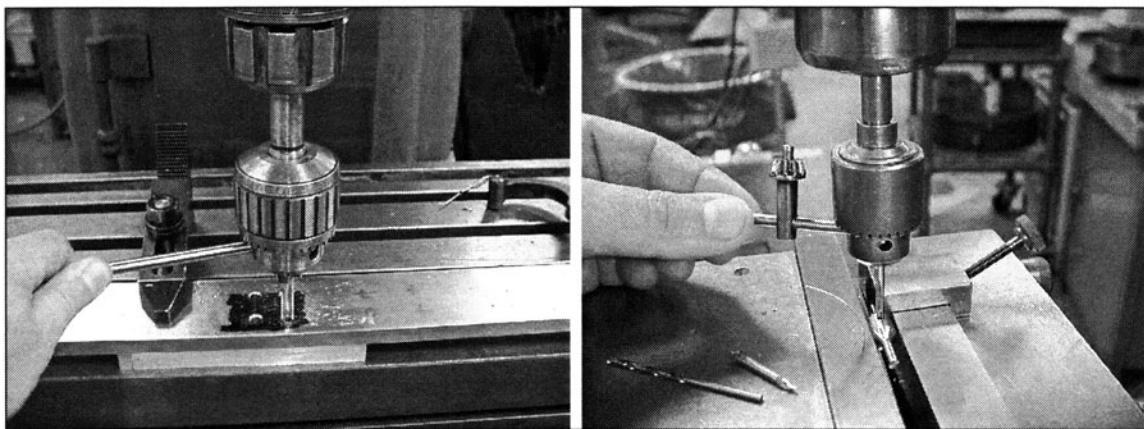

FIGURE 8-7 Holes can be hand tapped by loosening the spindle collet.
13. *Use a straight shank drill chuck in a loose collet to manually tap holes. (See Fig. 8-7)*